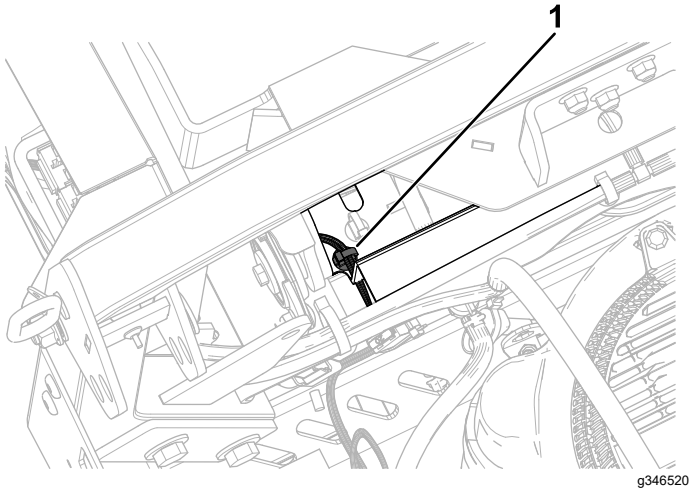

Figure 15
3. Install the second push-mount fastener into the rear fuel-tank bracket (Figure 15).